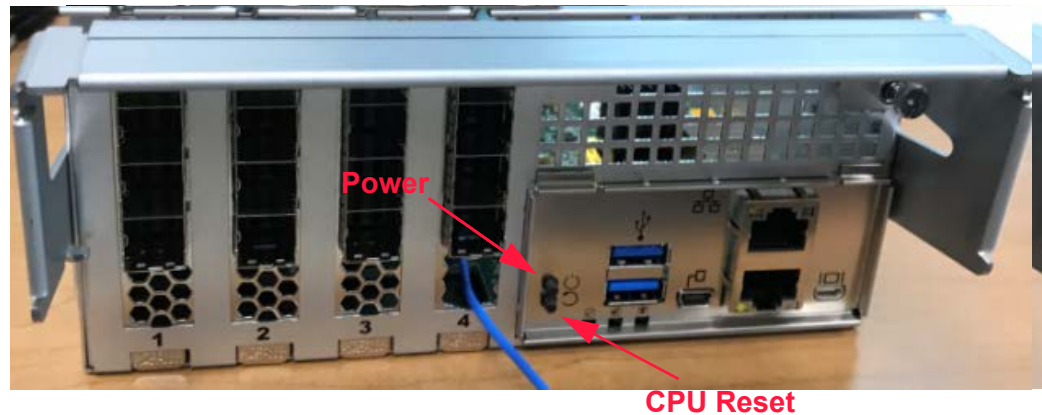

Figure 5.2 Server power and reset buttons
Power and CPU reset buttons are identified in Figure 5.2.
Both power and CPU reset buttons are located on the bottom center of each server's operator panel as shown in Figure 5.2 on page 53. Viking Enterprise Solutions recommends using these buttons when either rebooting or shutting down the server.
1. Refer to Figure 5.2 on page 53 to identify the location of the power button.
2. Refer to Figure 5.2 on page 53 to identify the location of the CPU reset button.
2. Refer to Figure 5.2 on page 53 to identify the location of the power button.